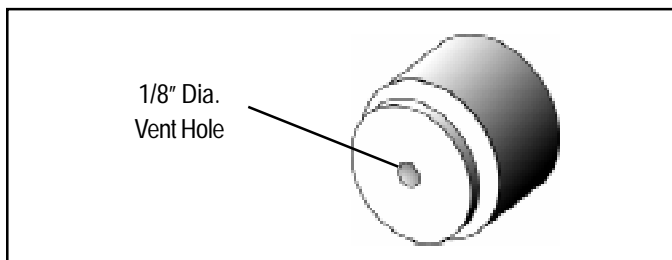

FIGURE 2 - E-8P PLUNGER WITH VENT
7. Apply barium grease(5) around the outside of the new plunger(1). The new plunger must have a center vent hole as shown in figure 2. Install the new plunger. Replace rollers and cotter pin if previously removed.